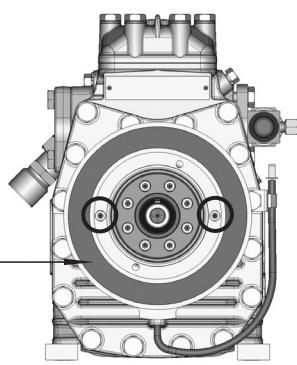

Fig. 8
- For the installation push the magnetic field on snugly and fasten with 2 cheese head screws M6 x 16 (see Fig. 8). Screw tightening torque = 15 Nm.